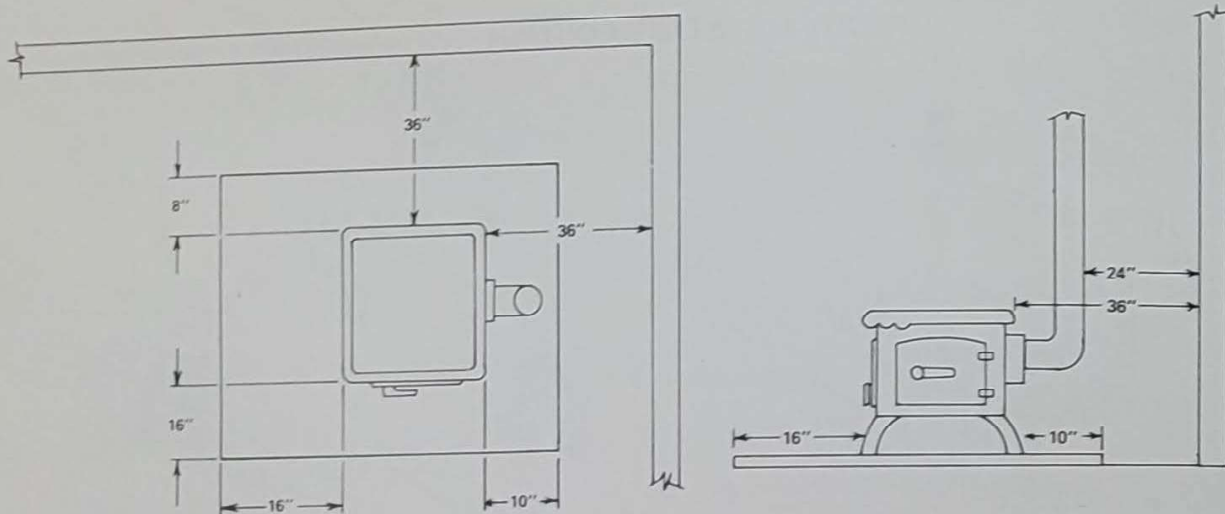

FIGURE 3
1. Install your Comforter according to Figure 3. Be sure the connector pipe comes no closer than 24" from walls or the ceiling.